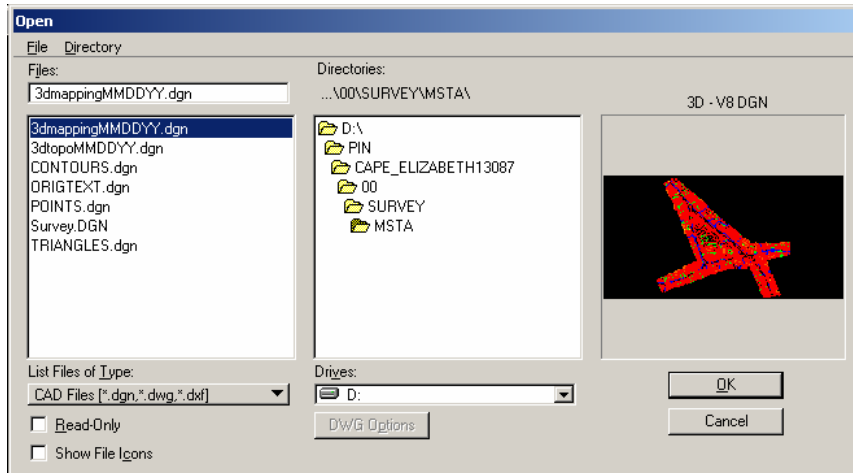

Figure 5-135: Current working directory set by project pick.
- 🎵 This will direct the *MicroStation Manager* dialog to look at the locally copied project and be pointing to the correct folder option (i.e. D:\pin\#####\##\Survey\MSTA\) (Figure 5-135).